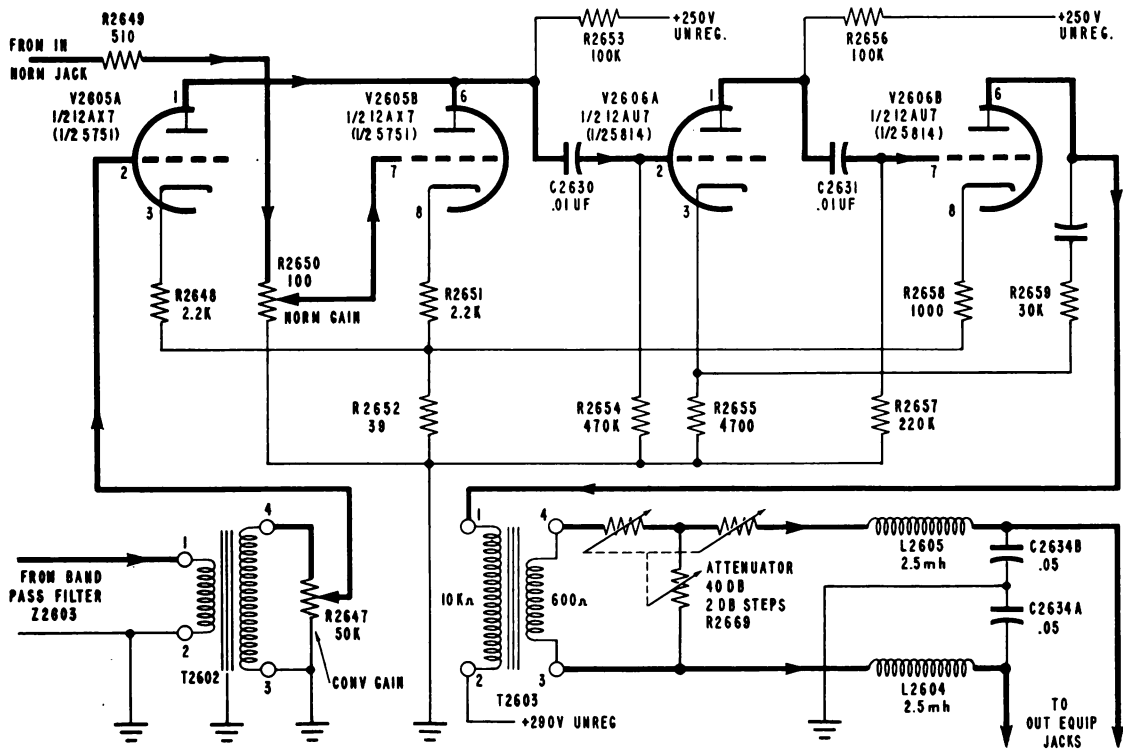

Figure 2-19. Schematic Diagram of Amplifier of Electronic Frequency Converter CV-243/FCC-3
d. AMPLIFIER. - Figure 2-19 shows the amplifier section of the Electronic Frequency Converter CV-243/FCC-3. The purpose of the amplifier is to provide gain to offset the losses in the modulator and filter. With the gain of the amplifier properly adjusted, the level of the individual signals at the input to the equipment are the same as at the output. An overall gain of about 30 db is provided from the input of the amplifier section to the output. The converted signals are applied to the grid of 12AX7 type tube V2605A and the normal signals are applied to the grid of V2605B. The signals are then amplified and added across a common 100,000 ohm plate resistor R2653. An input level control for the converted signals is provided in the grid circuit of V2605A by a 50,000 ohm potentiometer R2647. Input level of the normal signals is attenuated by a 510 ohm resistor R2649 and made adjustable by a 100 ohm potentiometer R2650 in the grid circuit of V2605B. Current feedback is applied to the cathodes of V2605A and V2605B by the 39 ohm resistor R2652, and 2200 ohm resistors R2648 and R2651 supply cathode bias to both tubes.